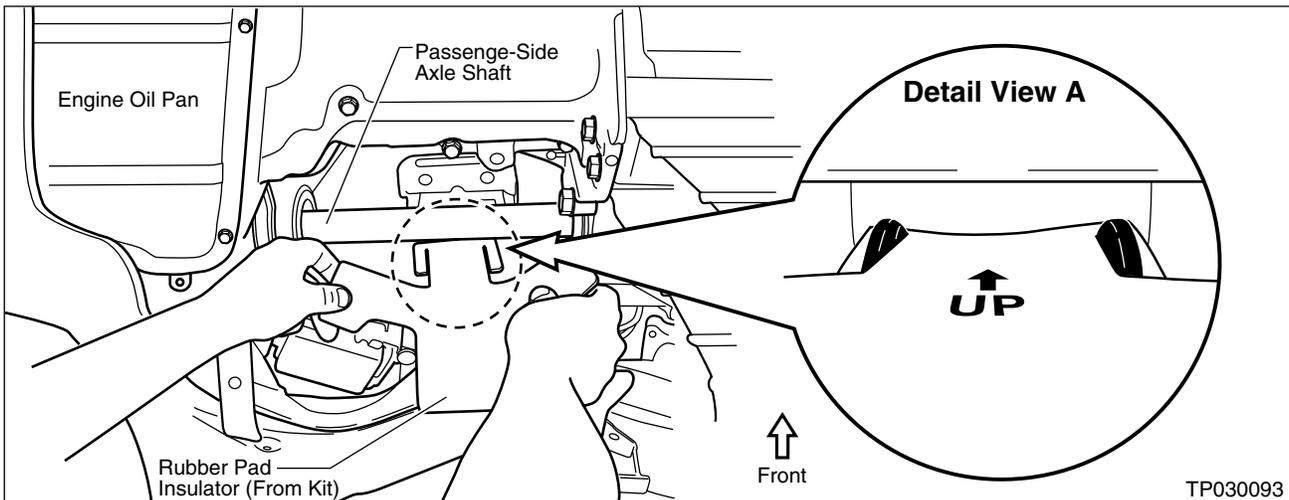

Figure E17
21. Guide the new Rubber Pad Insulator UP between the Passenger Side Axle Shaft and the Engine Mount (see Figure E17).
22. Then, hook the upper portion of the Rubber Pad Insulator onto the Engine Mount (see **Detail View A** in Figure E17).